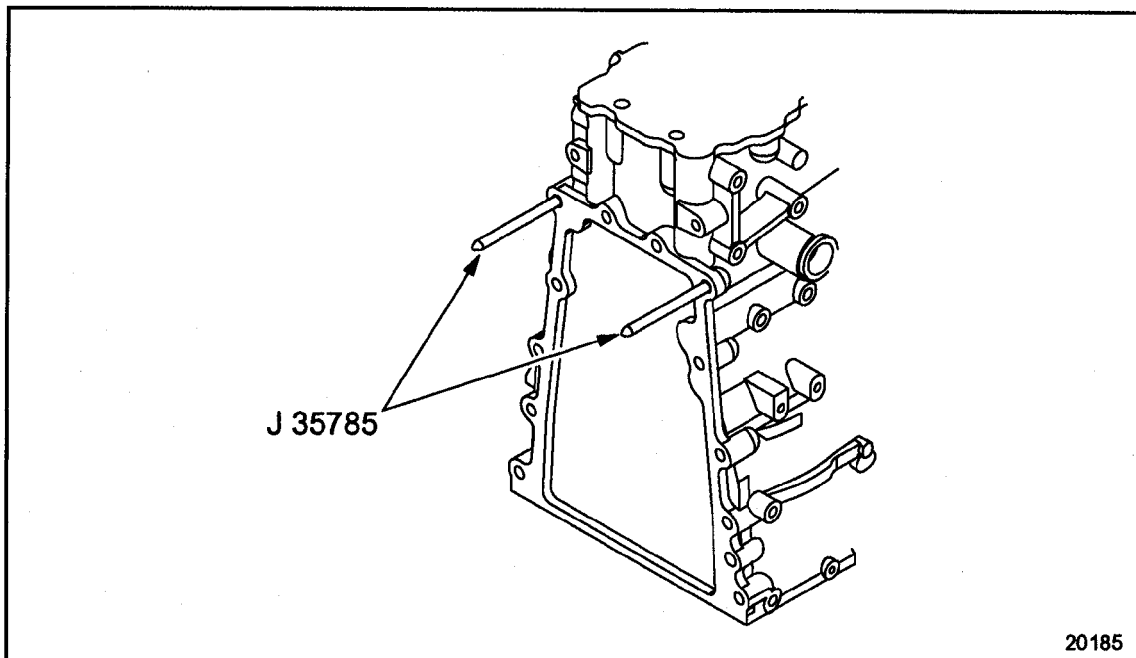

Figure 1-232 Pilot Stud Installation
5. To guide the flywheel housing until it clears the end of the crankshaft, thread two guide studs, J 35785 for 12 mm bolts, or J 43431 for 14 mm bolts, into the cylinder block. See Figure 1-232.
2. Thread two aligning studs, J 35785 for 12 mm bolts or J 43431 for 14 mm bolts, into the cylinder block to guide the housing in place. See Figure 1-232.